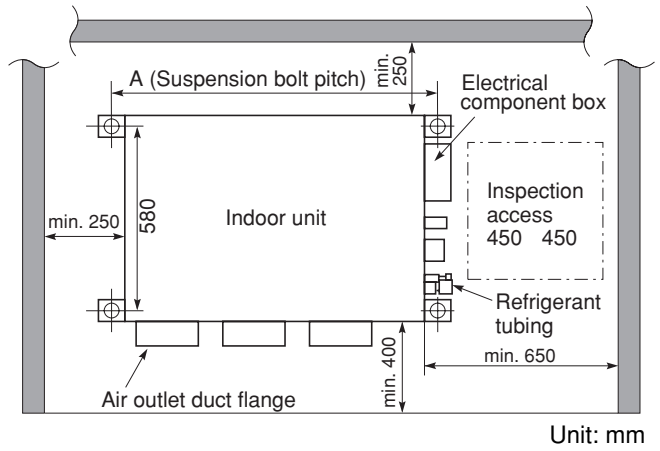

Fig. 3-82
- The minimum space for installation and service is shown in Fig. 3-82 and Table 3-5.
- (1) When placing the unit inside the ceiling, determine the pitch of the suspension bolts referring to the dimensional data on the previous page. (Fig. 3-82 and Table 3-5)